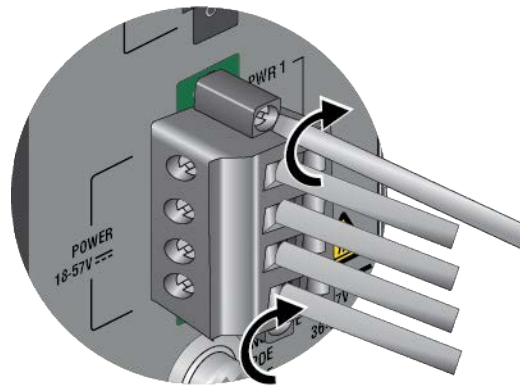

Figure 61. Tightening the Captive Screws to Secure the POWER Plug
3. Tighten the two captive screws to secure the POWER plug to the switch. Allied Telesis recommends tightening the screws to 5.0 in-lbs (0.55 Nm). Refer to Figure 61.